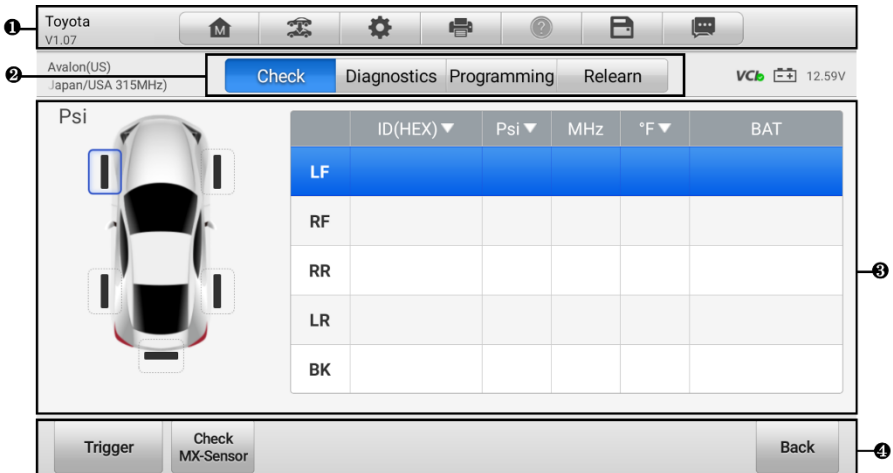

Figure 4-14 TPMS Service Screen
5. The TPMS Service screen will display. See Figure 4-14 TPMS Service Screen.
6. After confirming the vehicle information, tap **OK** to enter the TPMS Service screen. See Figure 4-14 TPMS Service Screen.
7. Follow the on-screen instructions to complete the operation and advance to the TPMS Service screen. See Figure 4-14 TPMS Service Screen.
5. Follow the on-screen instructions to confirm the vehicle information and finally enter the TPMS Service screen. See Figure 4-14 TPMS Service Screen.